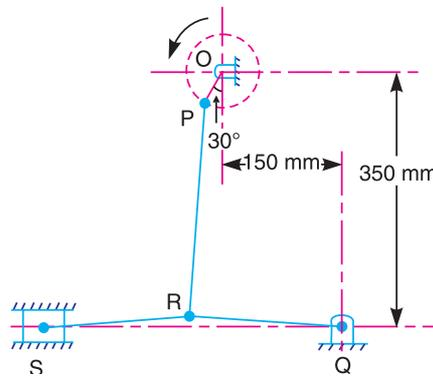

Fig. 7.40
10. A toggle press mechanism, as shown in Fig. 7.40, has the dimensions of various links as follows :  $OP = 50$  mm ;  $RQ = RS = 200$  mm ;  $PR = 300$  mm.